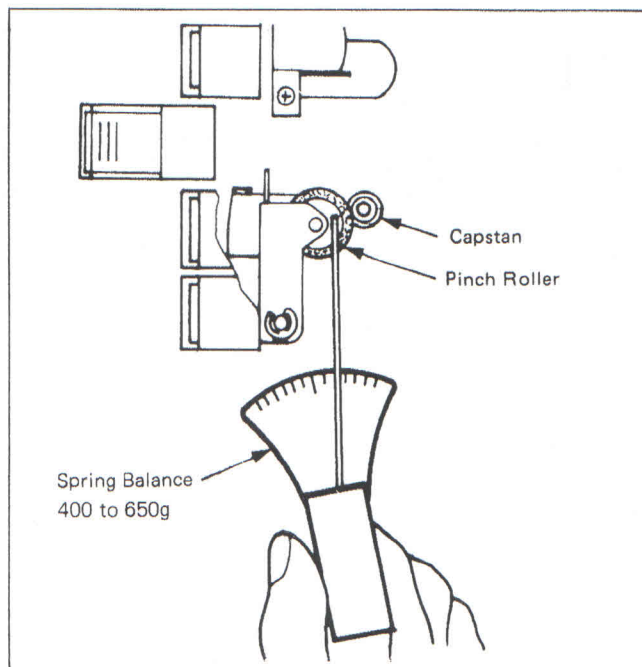

Fig. 3-1
2. Use a spring balance to measure contact pressure. (*Fig. 3-1*)